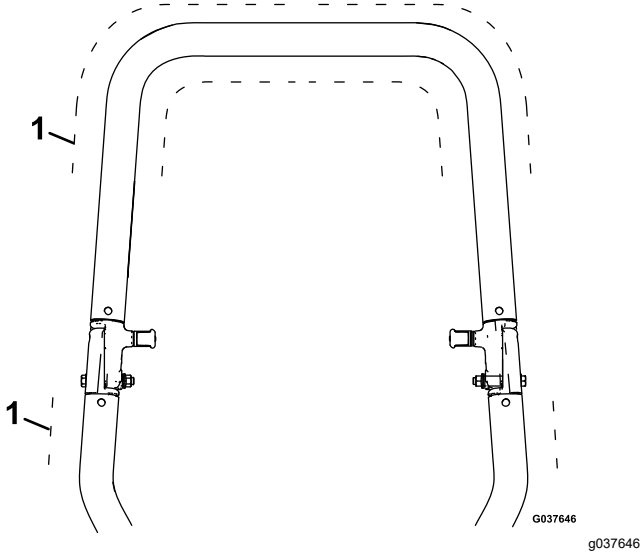

Figure 1
2. Secure the 2 tube clamps to the roll bar in the desired location (Figure 1).